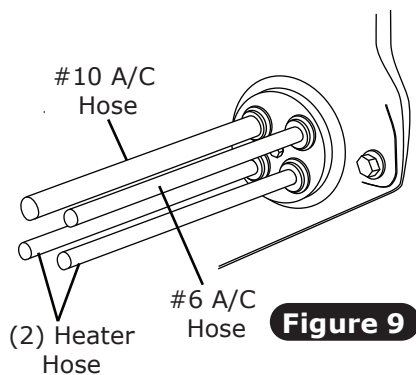

Figure 9
2. Route A/C and heater hose through fresh air cap and kick panel fresh air cap as shown in Figures 9 and 9b, below.
3. Apply a 1/4" bead of silicone around the back side of kick panel fresh air cap as shown in Figure 9, below.